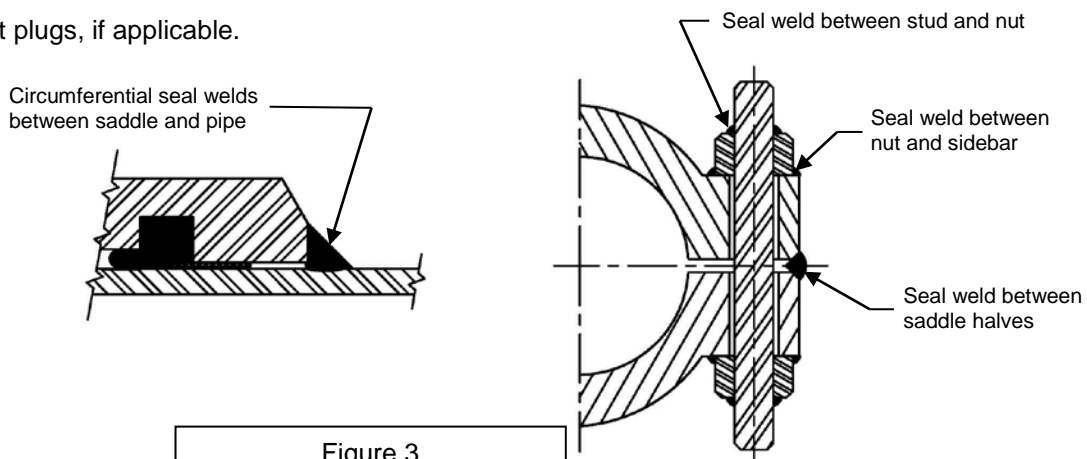

Figure 3
2. Fillet weld ends to pipe. (See Figure 3)